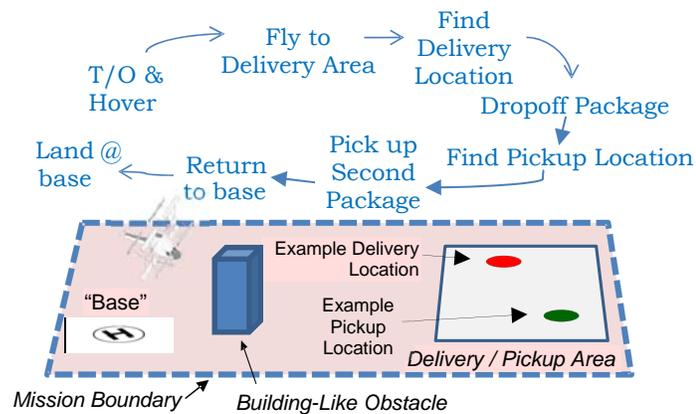

Figure 2. Task B - Target Search Mission
As shown in Figure 2, the flight demo includes the following elements: steady-state hover, obstacle avoidance, visual recognition of the dropoff point, delivery of the first package, recognition of the pickup point, acquisition of the second package, and return to base (with the second package) in an efficient, well-controlled manner. Each team will have ten (10) minutes to attempt the mission.